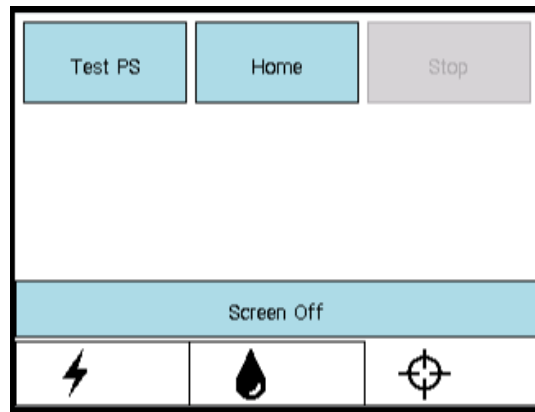
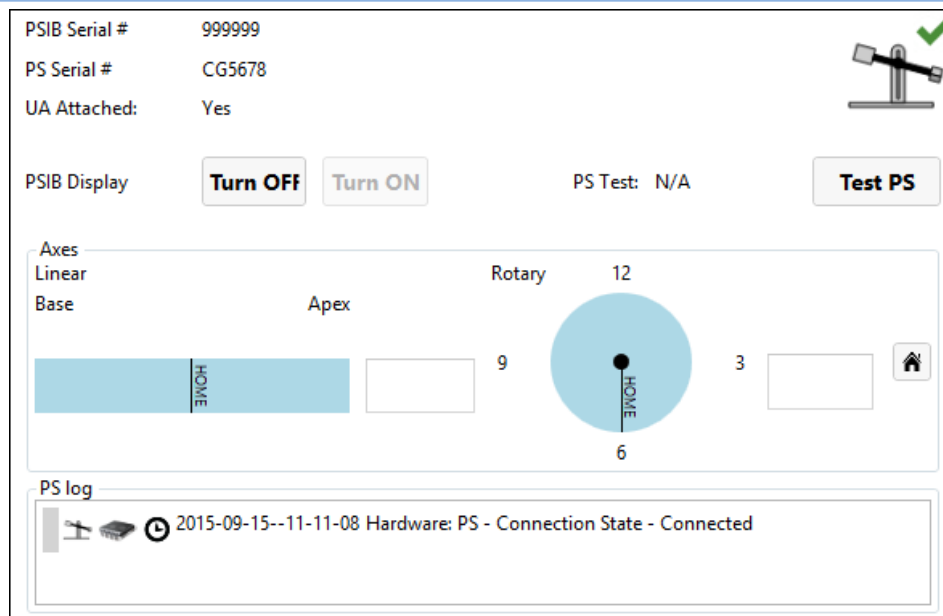

Figure 16: PSIB display - PS tab
Figure 17: PS information box in Setup workspace
- On the PSIB display, select the PS tab and click **Test PS** (Figure 16). The system will translate the PS forward and backward to test the continuity and functionality of the translation axis as well as home the PS in the translation axis. The system will also rotate the rotational axis clockwise and counter-clockwise to test the continuity and functionality of the rotational axis. (This can also be done from the TDC Setup workspace in the PS information box in the bottom-right quadrant Figure 17.)